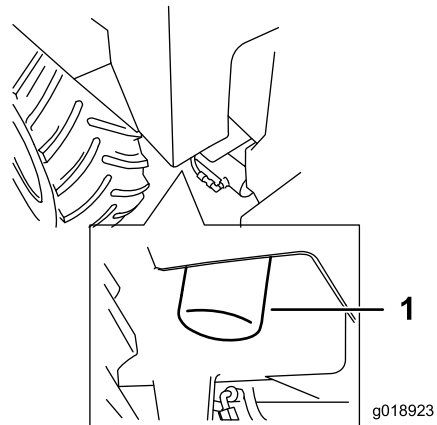

Figure 41
4. Turn the hydraulic oil filter counterclockwise, remove and discard the filter (Figure 41).